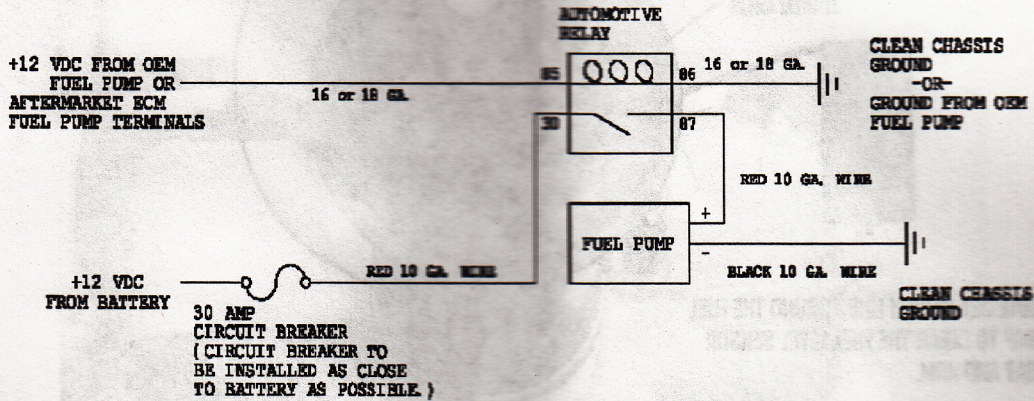

FIGURE 1-12
20. The Aeromotive fuel pump needs its own relay and 12V power wire. The use of Aeromotive fuel pump wiring kit (part # 16301) is recommended. Since the factory Ford fuel pump is pulse modulated you can not use the factory fuel pump wires to trigger the relay. Find a suitable 12V key on ignition source for the #85 connection on the relay. **FIGURE 1-12**